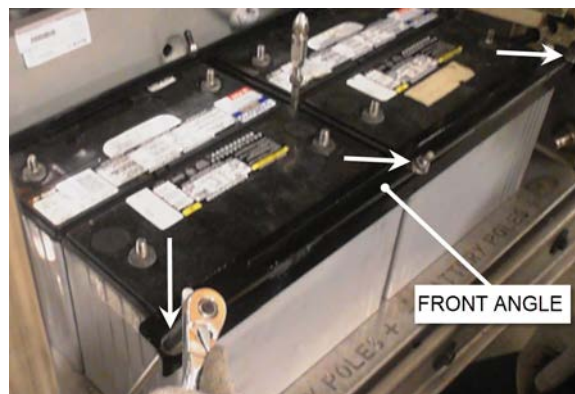

FIGURE 45: REMOVE THE FRONT ANGLE
5. Unscrew three nuts (indicated with arrows) and then remove the front angle (FIGURE 45).